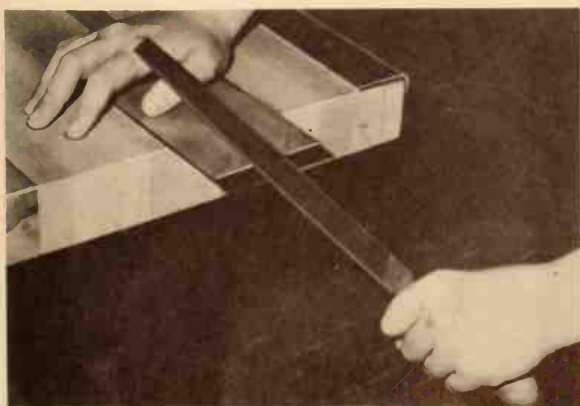

Fig. 4-36. Removing burrs from the edge of metal.
6. Remove burrs from edges. When cutting or filing heavy sheet stock, burrs form on the edges. Remove these burrs by running the file across the sharp edges, Fig. 4-36.